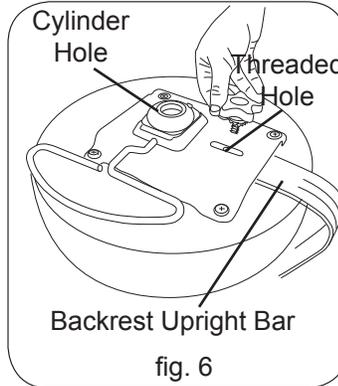

fig. 6
7. If your stool has a backrest, Insert the backrest upright bar into the slot until the threaded hole appears (fig. 6).